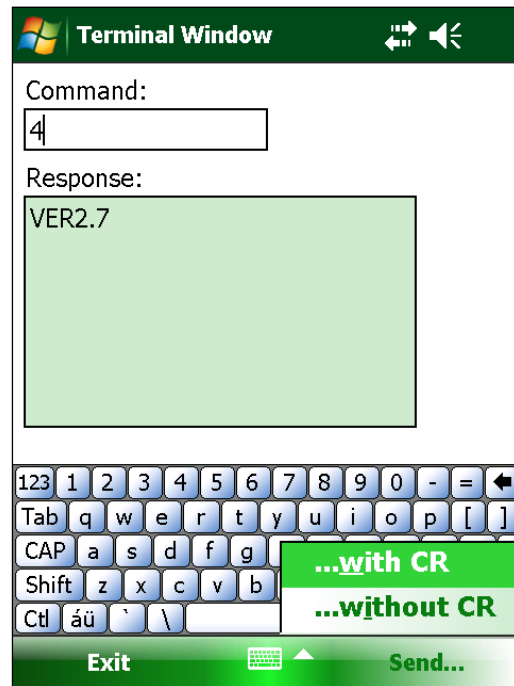

Figure 39 - Terminal Window
If a connection can be made, the window shown in Figure 39 is displayed. Using the “Terminal Window” requires the use of the on-screen keyboard to enter simple one or two character commands to the Remote Module. See Appendix D for more information regarding the Remote Module command structure.
Alternately, tapping the “Send” menu gives the user the ability to send a character to the Remote Module with or without a Carriage Return (CR) appended to the character string (see Figure 39). This is useful when a confirmation character is required (such as for the calibration routine) but no carriage return.